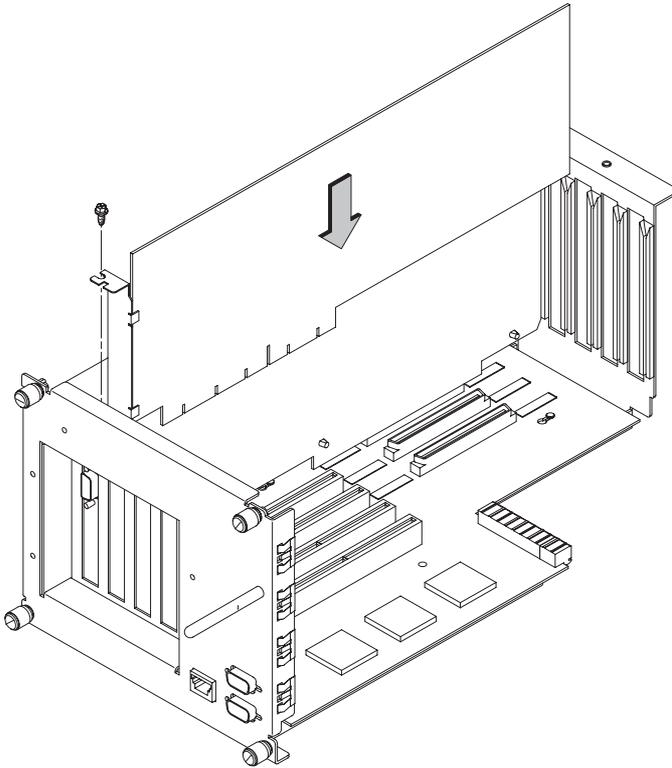

Figure 5-37. Installing an EISA or Graphics Board in the EISA Assembly
6. Place new board in the board guides and slide firmly into the connector. Check to see the board is evenly inserted to seat properly. See Figure 5-37.